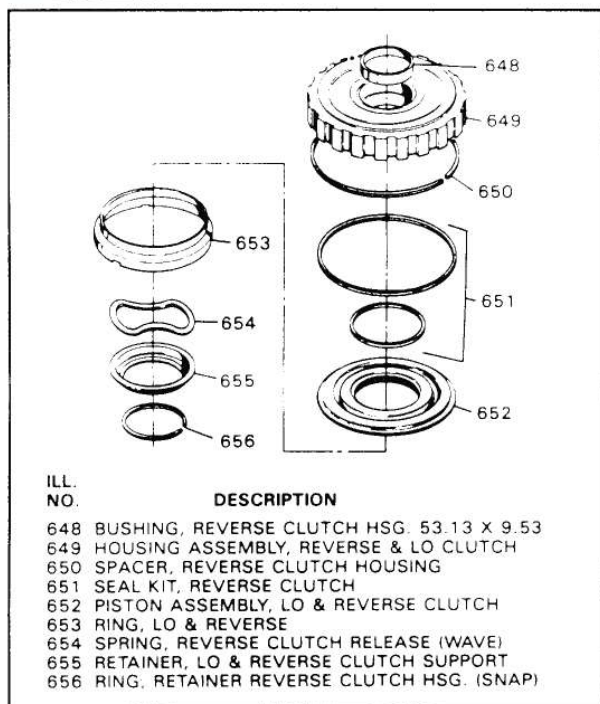

Figure 70
31. Inspect all Lo/Reverse clutch housing parts for any wear and/or damage (See Figure 70).
33. Install new inner and outer lip seals on the piston, and lubricate with "Trans-Jel" (See Figure 70).
37. Install the return spring, spring retainer, and the snap ring on support, as shown in Figure 70.
38. Install the apply ring (653) into the piston, shown in Figures 70 and 73. Apply ring is stamped with an I.D. number, and must match the number plates installed (See chart in Figure 74).